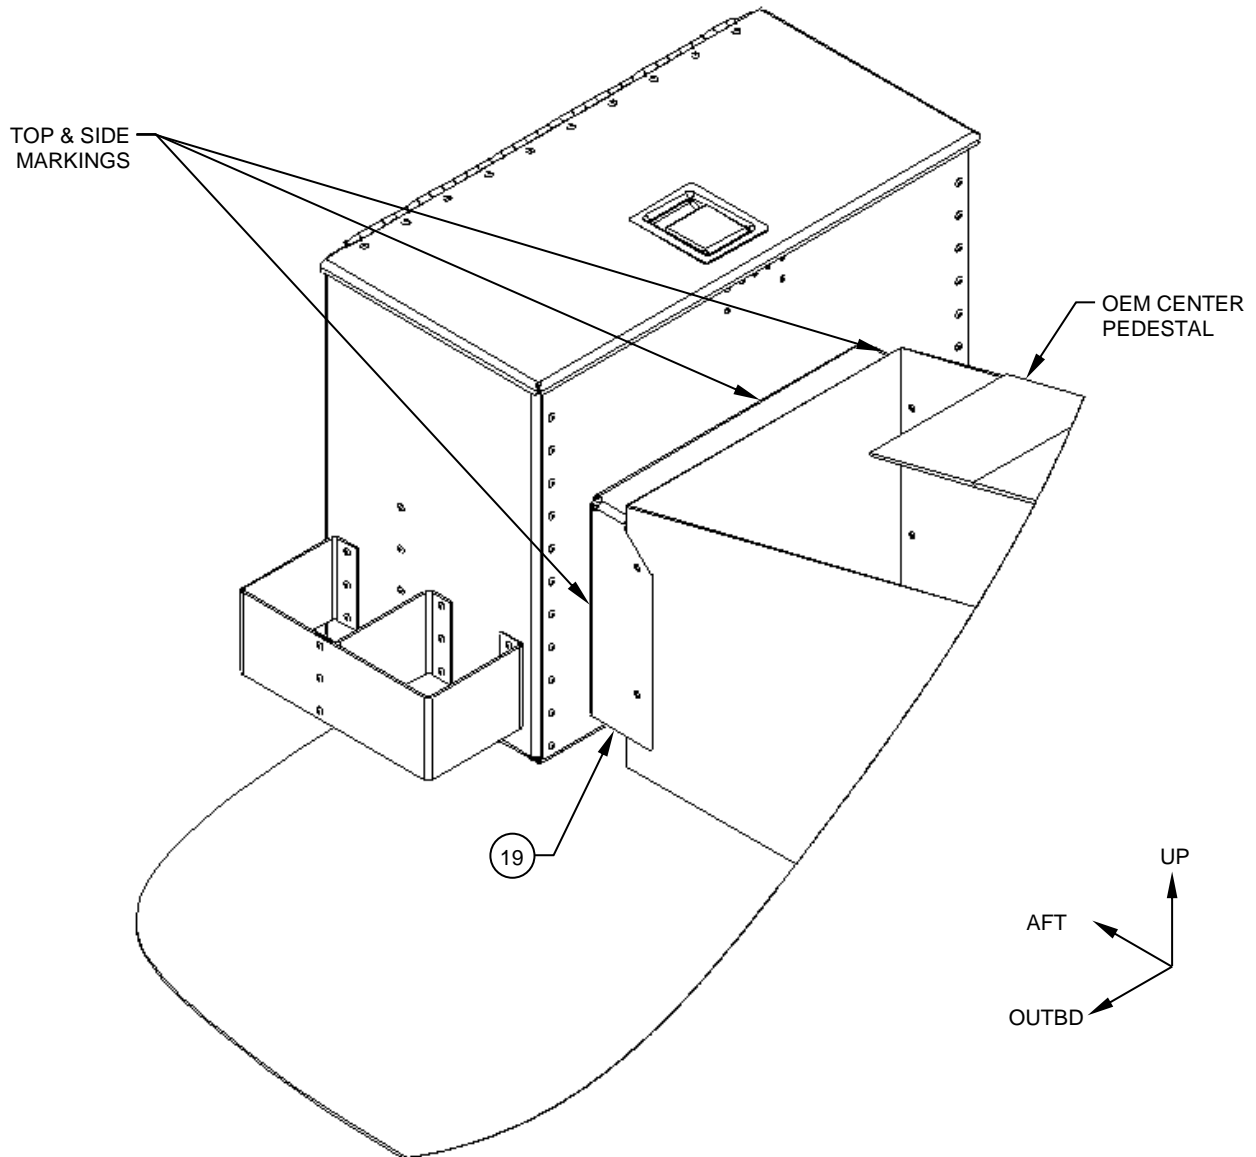

Figure 3
4. Mark the front wall of the Aft Pedestal Stowage Compartment, Assy (Item 1) to denote where the top and sides of the Pedestal Attachment Flange, Detail (Item 19) sit. Reference Figure 3.